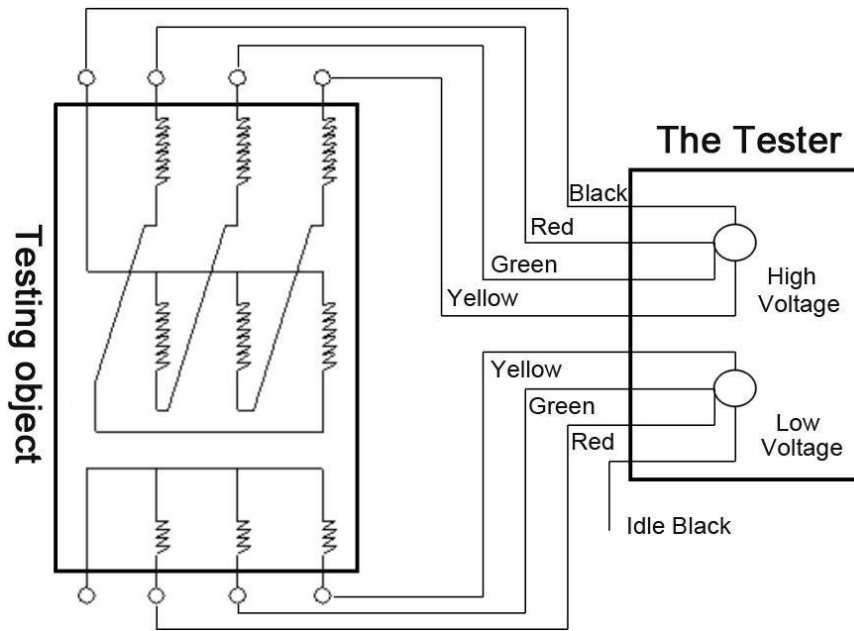

Figure 14
3、 Z-type transformer, wiring according to Figure 14